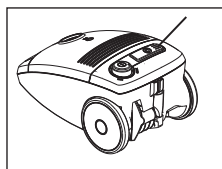

Fig. 9
5. After finishing cleaning, switch the vacuum cleaner off and disconnect the power cable by pulling the plug from the outlet. Rewind the cable by pressing the rewind button, hold on the plug when rewinding so that it does not damage furniture or the appliance itself when it jerks (fig. 9). If the cable does not retract completely, pull it out of the vacuum cleaner about 30 cm and press the rewind button again.